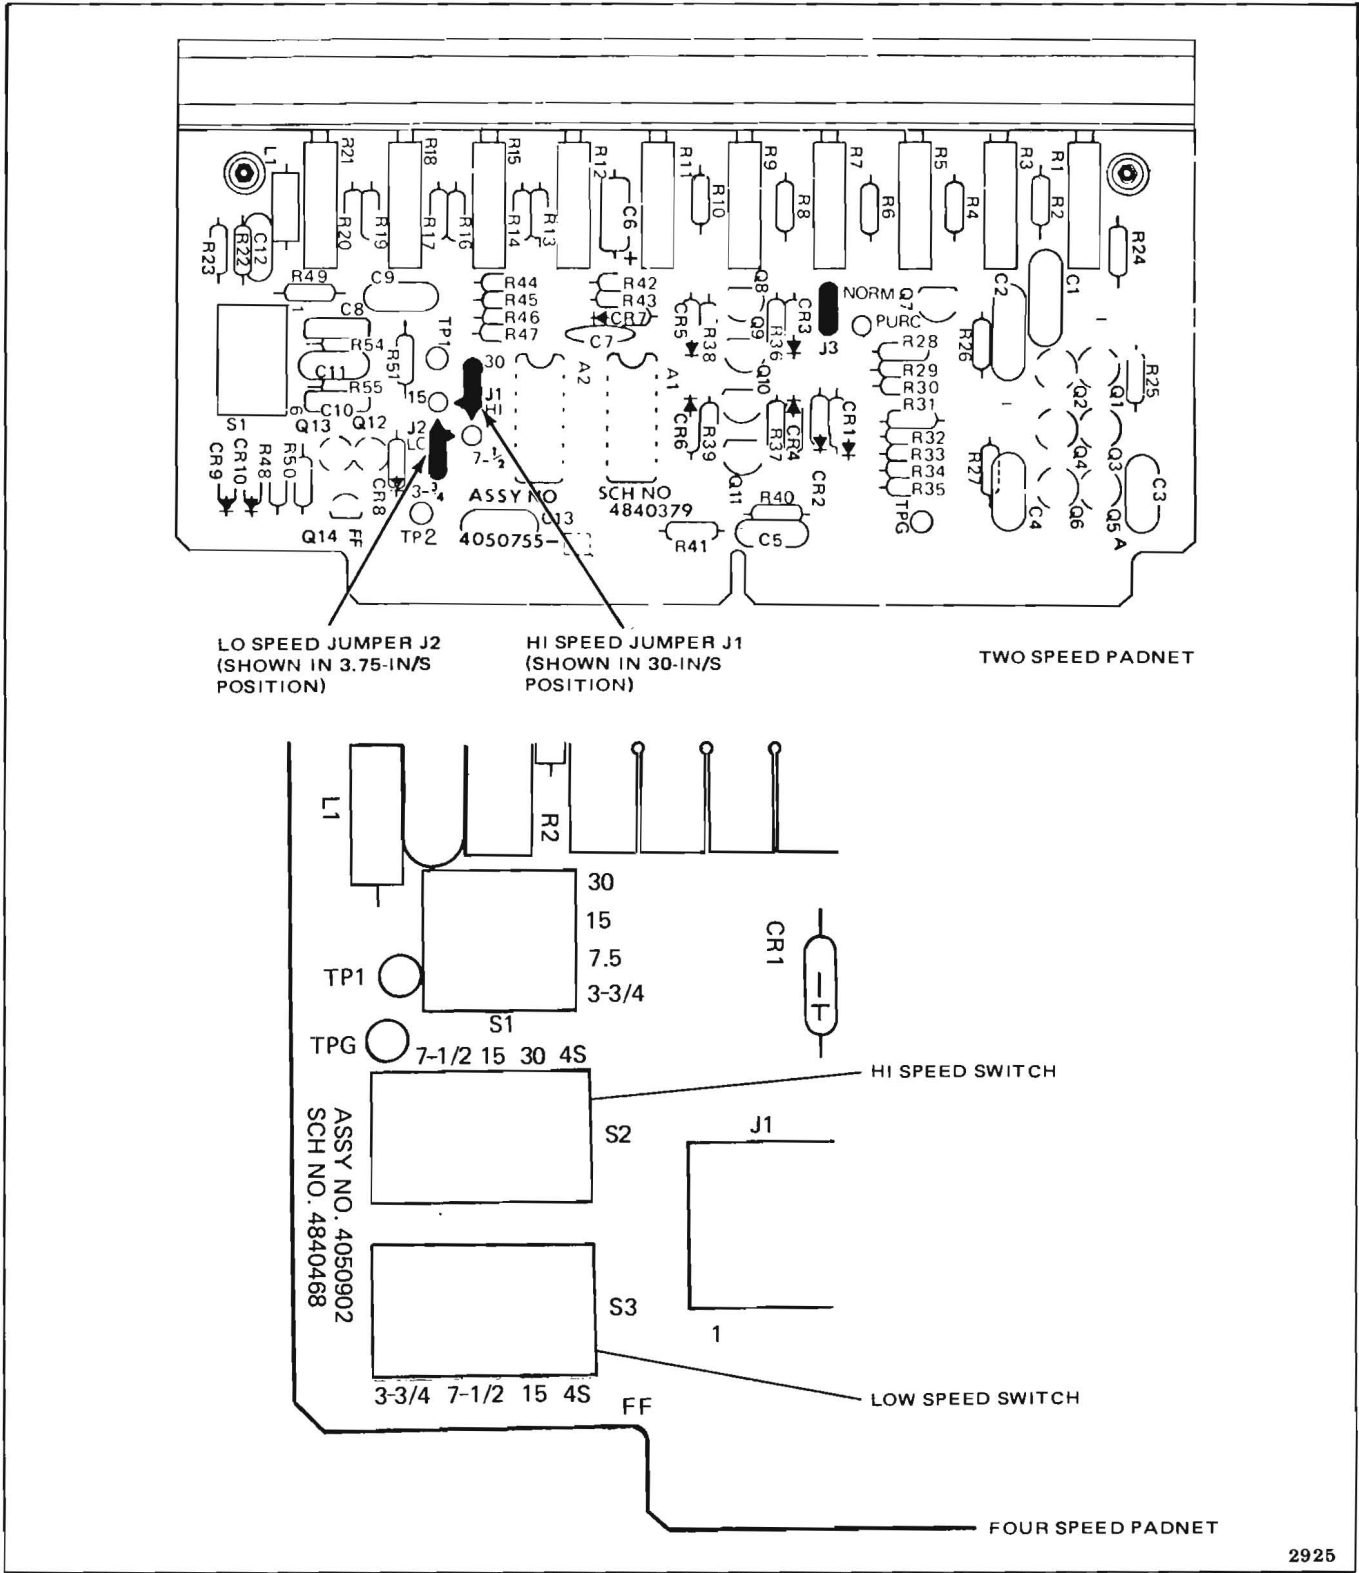

Figure 5-5. Speed Selection Controls PADNET PWA
- b. Position HI speed jumper J1 to the desired high speed: 30, 15, or 7.5 in/s position (Figure 5-5).
- b. Position the HI speed switch (S2) to the higher speed of the two speeds selected (see Figure 5-5).